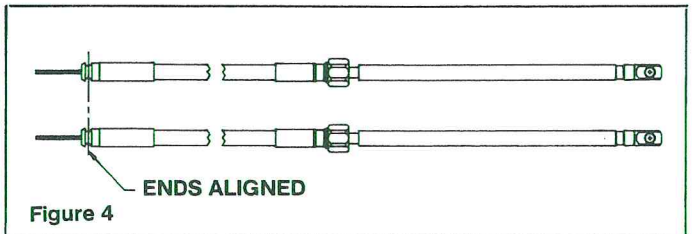

Figure 4
STEP 2. Push both output rams of the cables to the fully retracted position. Make sure that they stay fully retracted during installation into the helm. Remove the protective sleeves from Steering Cables, make sure that dirt does not get onto the lubricated cable ends. Hold both cables together at the helm end with the faces of the conduit fittings flush, as shown in Figure 4.